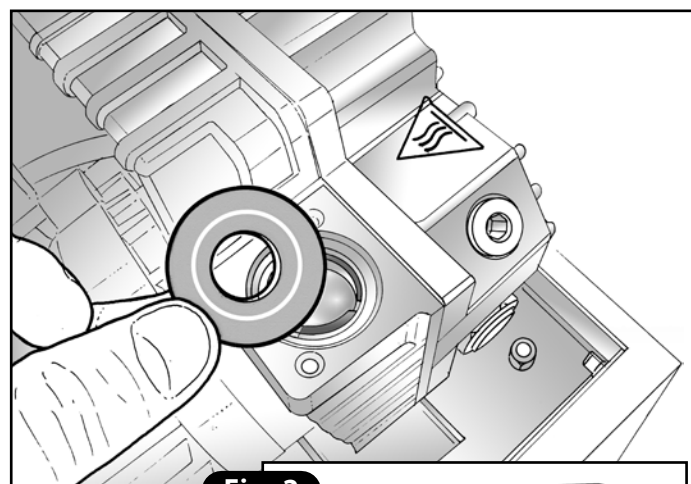

Fig. 2
- 4) Remove first the rubber seal and then the steel one. Check the condition of the accessible intake section and clean it if necessary with a cloth soaked in alcohol (Fig. 2).